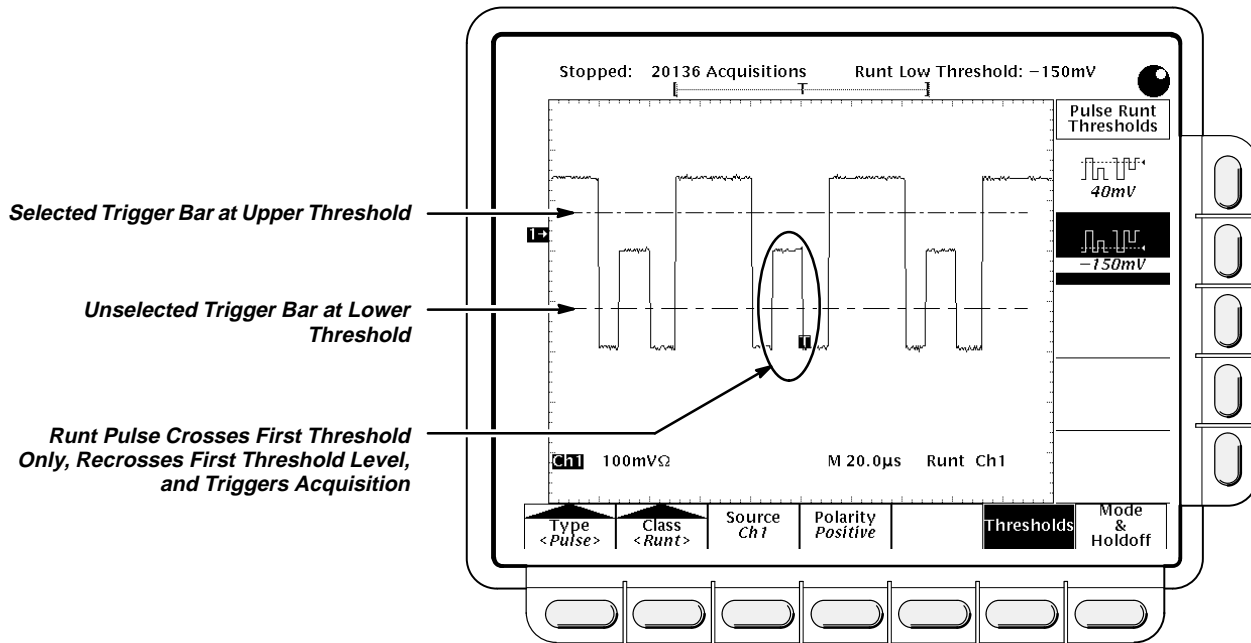

Figure 3-47: Main Trigger Menu—Runt Class
1. Press **TRIGGER MENU** → **Type** (main) → **Pulse** (pop-up) → **Class** (main) → **Runt** (pop-up) → **Source** (main) → **Ch1, Ch2, Ch3 (Ax1 for the TDS 520), or Ch4 (Ax2 for the TDS 520)** (side). (See Figure 3-47.)
Note the position of the trigger indicator in Figure 3-47. Triggering occurs at the point the pulse returns over the first (lower) threshold going negative without crossing the second threshold level (upper). Be aware of the following considerations when using Runt triggering: